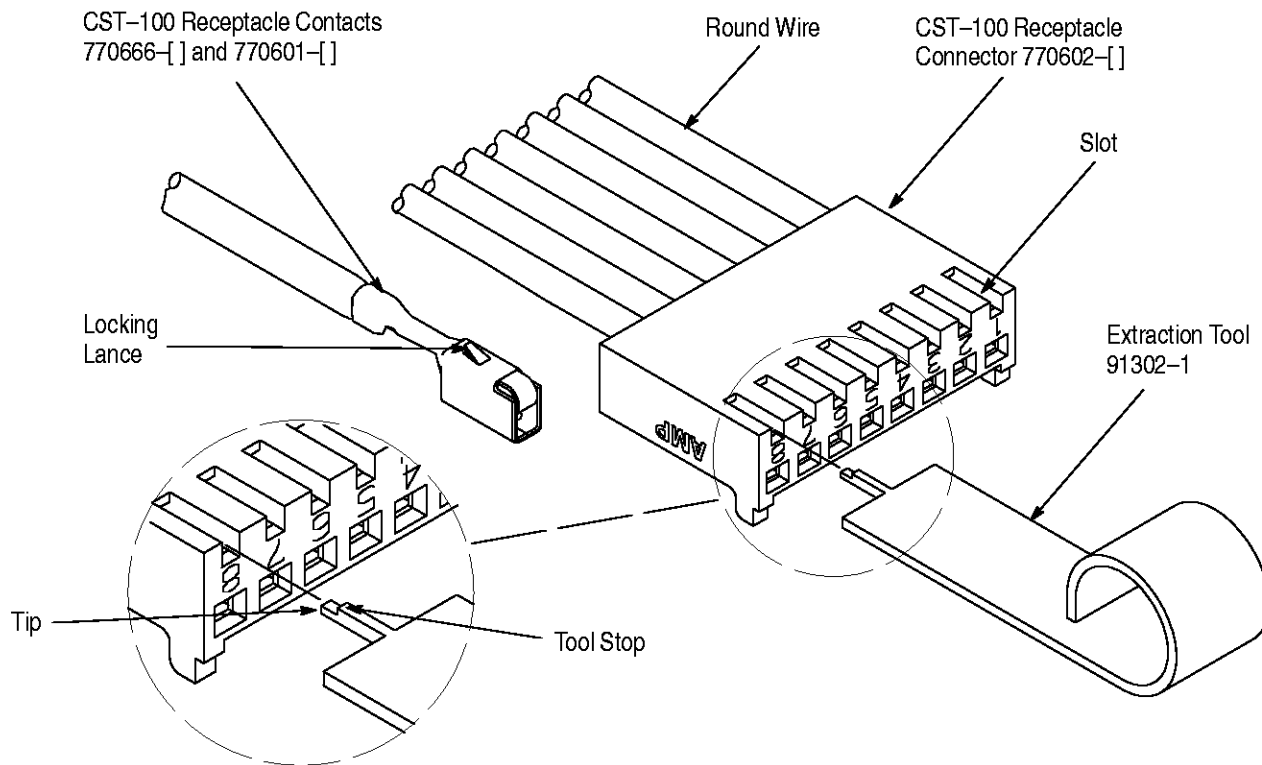

Figure 1
AMP* Extraction Tool 91302-1 is designed to extract individual AMP CST-100 receptacle contacts from CST-100 connector housings. See Figure 1 for a typical CST-100 receptacle contact and connector housing. Read this sheet carefully before using the tool.
1. With the extraction tool positioned as shown in Figure 1, insert the tip straight into the slot until the tool stop bottoms on the connector.